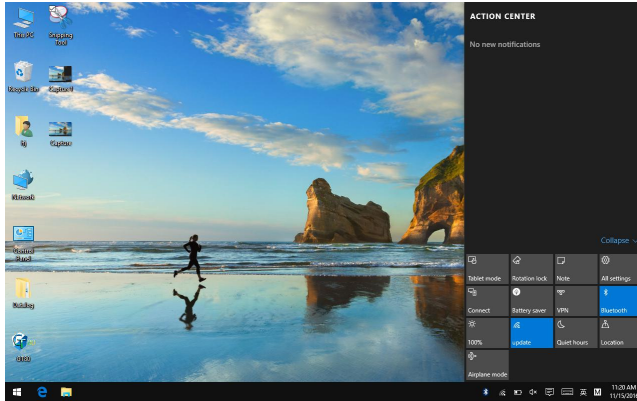

Figure 4-5 Sample Bluetooth Icon Screen
2. Slide the right side of screen to the left, then a menu will show.(as Figure 4-5).Then click the Bluetooth button and the VCI will automatically connect with the GT90 Tablet.